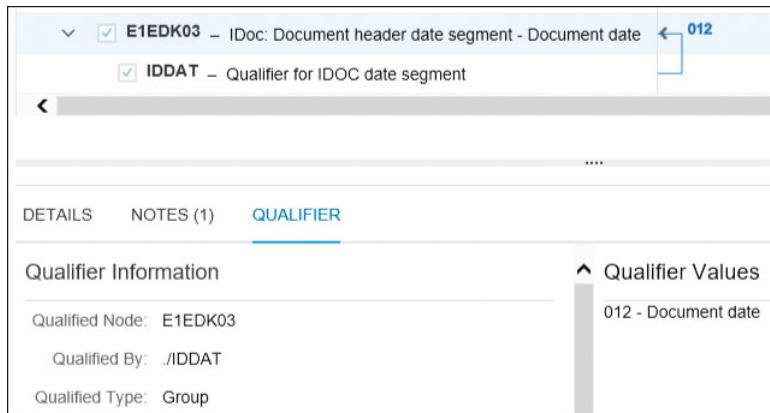

Figure 7.13 Qualified Field in the MIG
- Using the context menu option **Qualify Node**, you can qualify a node by specifying a qualifier marker and qualifier value. The qualifier is then shown in the structure as an arrow with the defined qualifier value (see Figure 7.13). Using qualifiers helps to simplify the MAG creation in the next step.